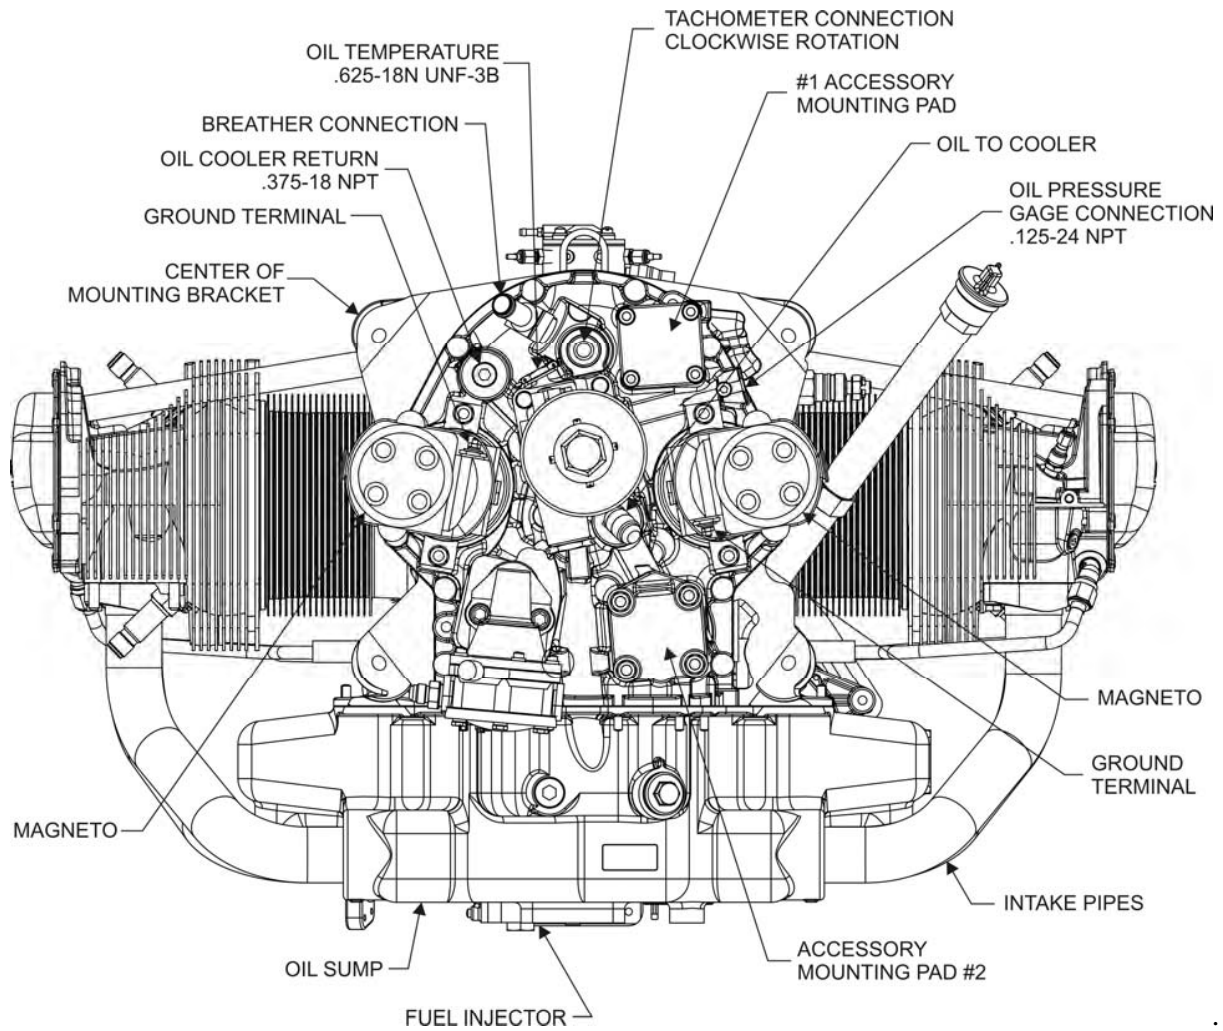

Figure 2-3. Installation, Rear View
- a. Refer to installation drawing, Figure 2-3. Remove cover plate and gasket. When installing the accessory, use the gasket and hardware specified by the airframe manufacturer. Torque to the value specified for the thread size in the Table of Limits, (L)IO-360-M1A Maintenance and Overhaul Manual.